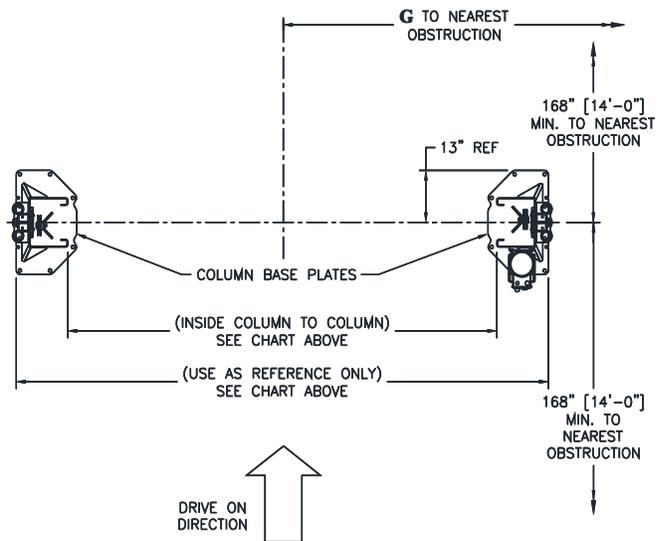

Fig. 1b - Service Bay Layout
- Lay out the service bay according to the architect's plans or owner's instructions (**see Fig 1b—Service Bay Layout**). **Failure to install in this orientation can result in personal and property damage.**